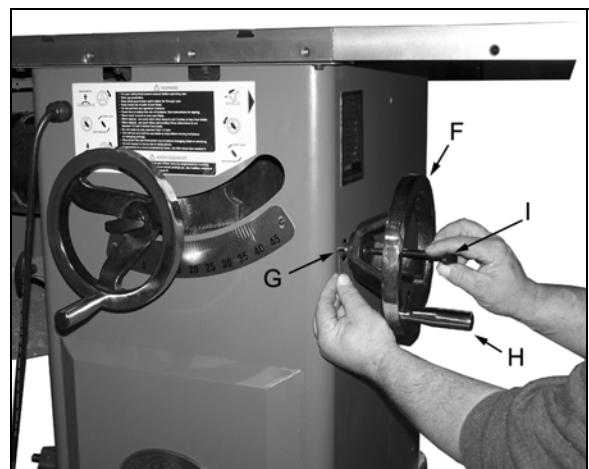

Figure 3
1. Place handwheel (F, Figure 3) onto the saw shaft. Use an allen key to lock the wheel onto the shaft with the set screw (G, Figure 3). Insert and screw the locking handle (H, Figure 3) and the wheel handle (I, Figure 3) into their respective holes. Repeat for other.